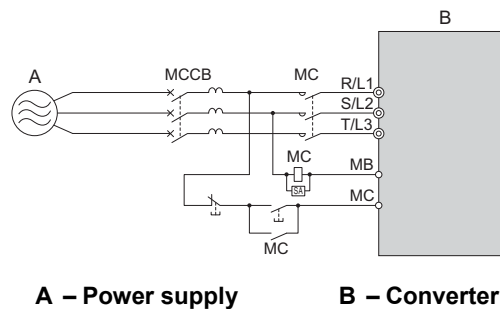

Figure 7.2 Power Supply Interrupt Wiring (Example)
- If several converters are connected to one MCCB or ELCB that is shared with other equipment, use a sequence that shuts the power OFF when errors are output by using magnetic contactor (MC) as shown in Figure 7.2.